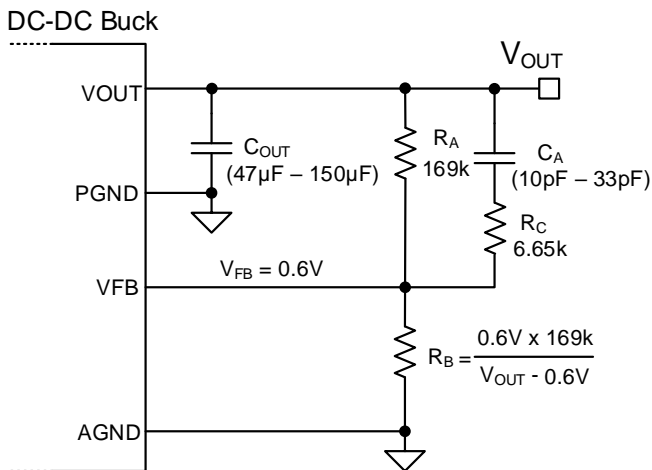
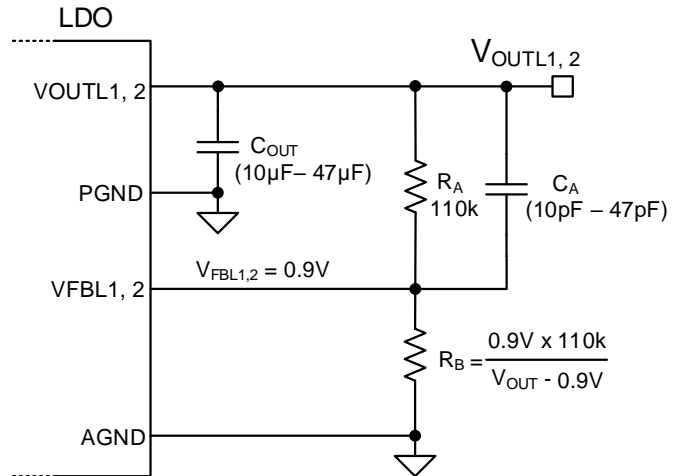

Figure 2: DC-DC VOUT Resistor Divider & Compensation Capacitor
Figure 3: LDO VOUT Resistor Divider & Compensation Capacitor
5) Output Voltage Settings - The output voltage of each rail may be adjusted quickly by placing a jumper on the jumper sets J6, J7 and J9. The voltages available for the buck regulator are 0.6V, 1V, 1.8V, 2.5 and 3.3V. The voltages available for the LDOs are 0.9V, 1V, 1.8V, 2.5V and 3.3V. The compensation CA may be adjusted according to Table 1 for best results. The output voltage may also be adjusted to any voltage as indicated by the equation for RB shown in Figure 2 and Figure 3.